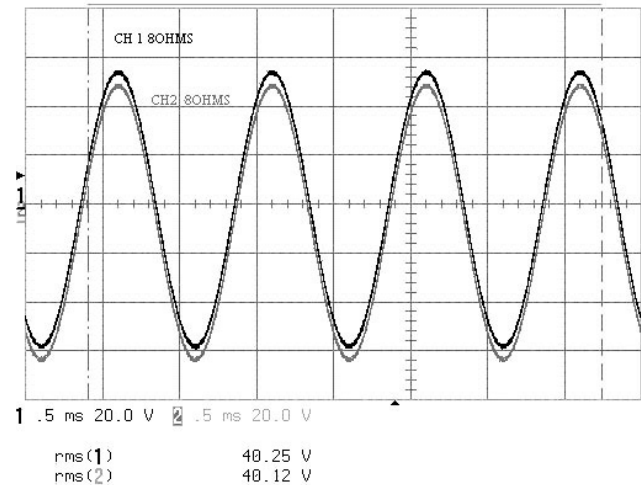

Figure 4.21 Current Sensing Calibration
3. Adjust R160 while observing TP-10 for channel 1 in order to achieve 1.0Vrms +/-10mVrms (see Figure 4.21).